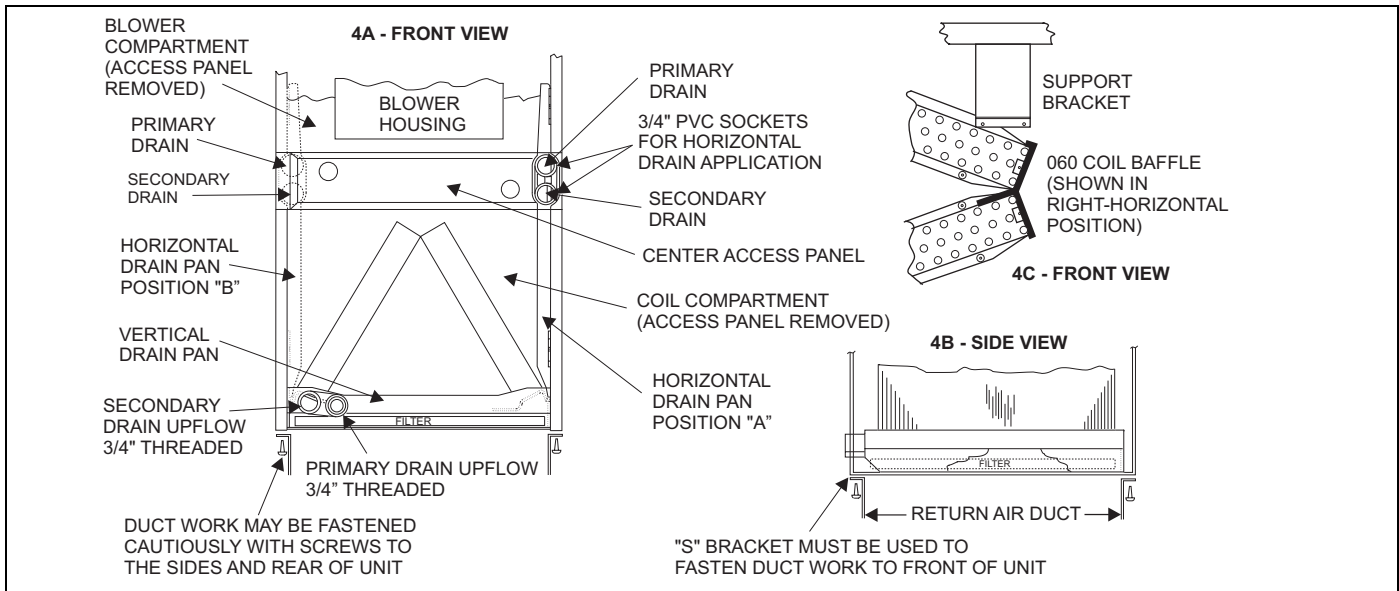

FIGURE 3: Filter Access & Drain Pan Conversion / Coil Baffle
2. See Figure 3, remove two screws from horizontal drain pan, to remove pan from position "3A" if factory installed.